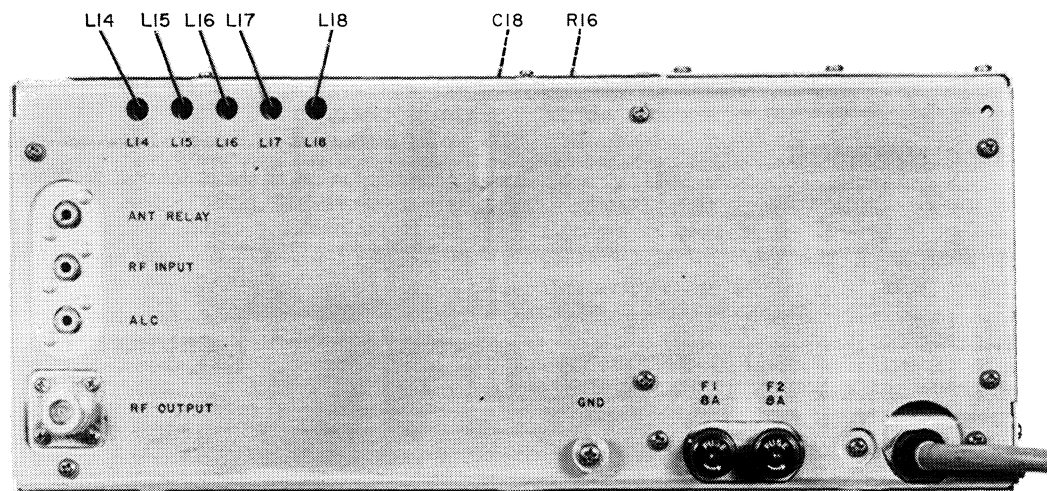

Figure 4-1. Location of Adjustments
e. Repeat the above procedures at 21.3, 14.3, 7.2, and 3.9 mc, adjusting L15, L16, L17, and L18 respectively. These adjustments are accessible through the holes in the rear cover of the r-f compartment. Do not remove the cover. Refer to figure 4-1.